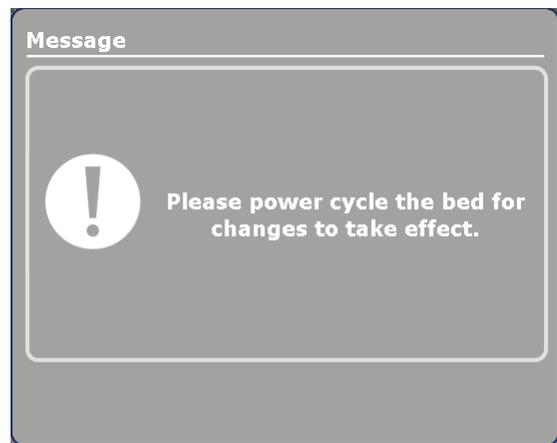

Figure 36 – Power cycle screen
4. A power cycle screen displays (Figure 36).